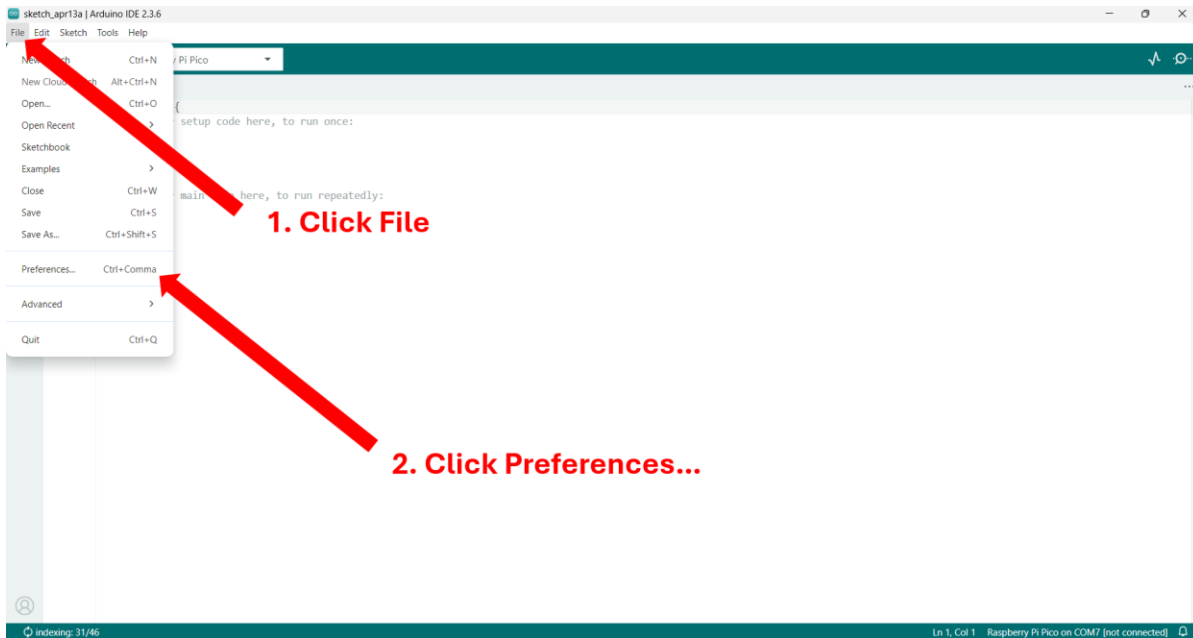

Figure 9
4. If you are using a Windows computer, go to File -> Preferences... by following the instructions in Figure 9.